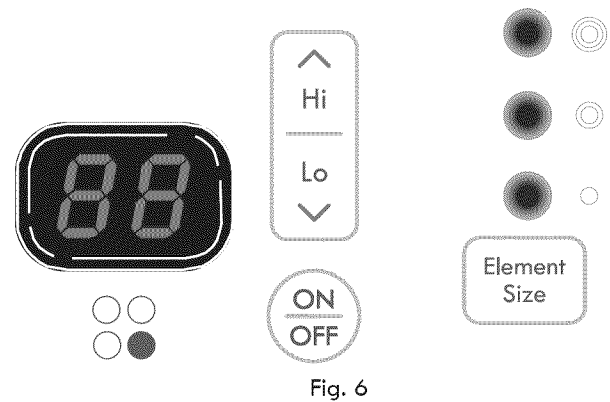

Fig. 6
- Touch HI  pad once to turn ON the power level to HI. Touch Lo  pad once for Lo (See Fig. 6).